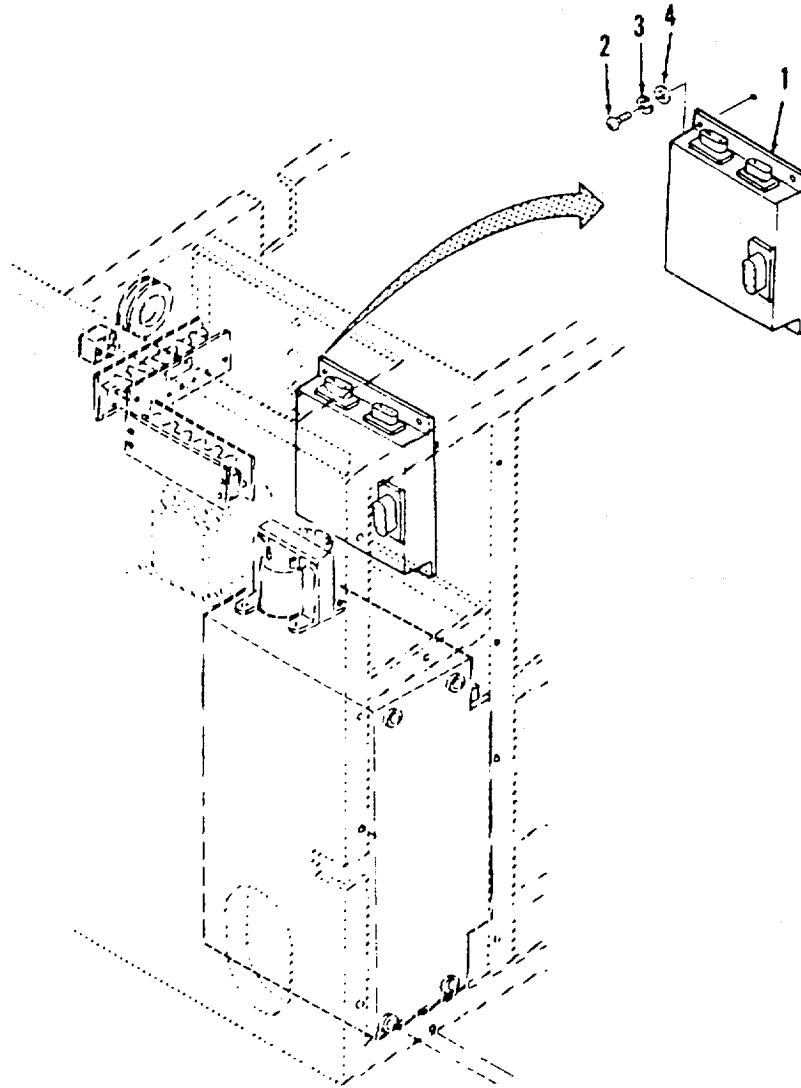

Figure 3-25. Logic Box Assembly.
- a. **Removal.** (Refer to Figure 3-25).
- (1) Disconnect all wires connected to logic box assembly (1).
- (2) Remove four screws (2), four lock washers (3), and four flat washers (4), and remove logic box assembly (1) from unit.